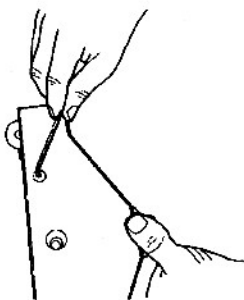

Fig. A-42
50. Use a $5/32$ " Allen wrench to loosen the screw on the top right hand side of the fence base, as shown in Fig. A-42.